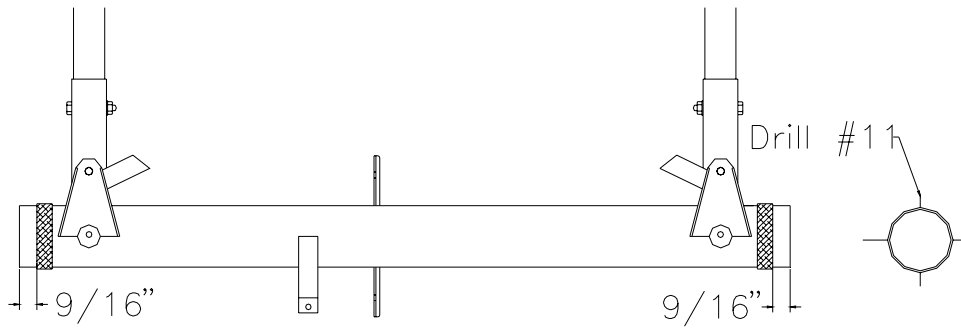

Figure 20.3.8
9) Slide the doubler rings (CC-54) onto the Control Torque Tube (CC-35). Drill four #11 holes through each doubler ring. Figure 20.3.8.